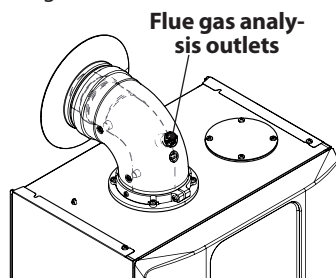

Figure 7.2
- Connect a flue analyser to the flue gas analysis outlets on the flue gas exhaust on the boiler Figure 7.2.